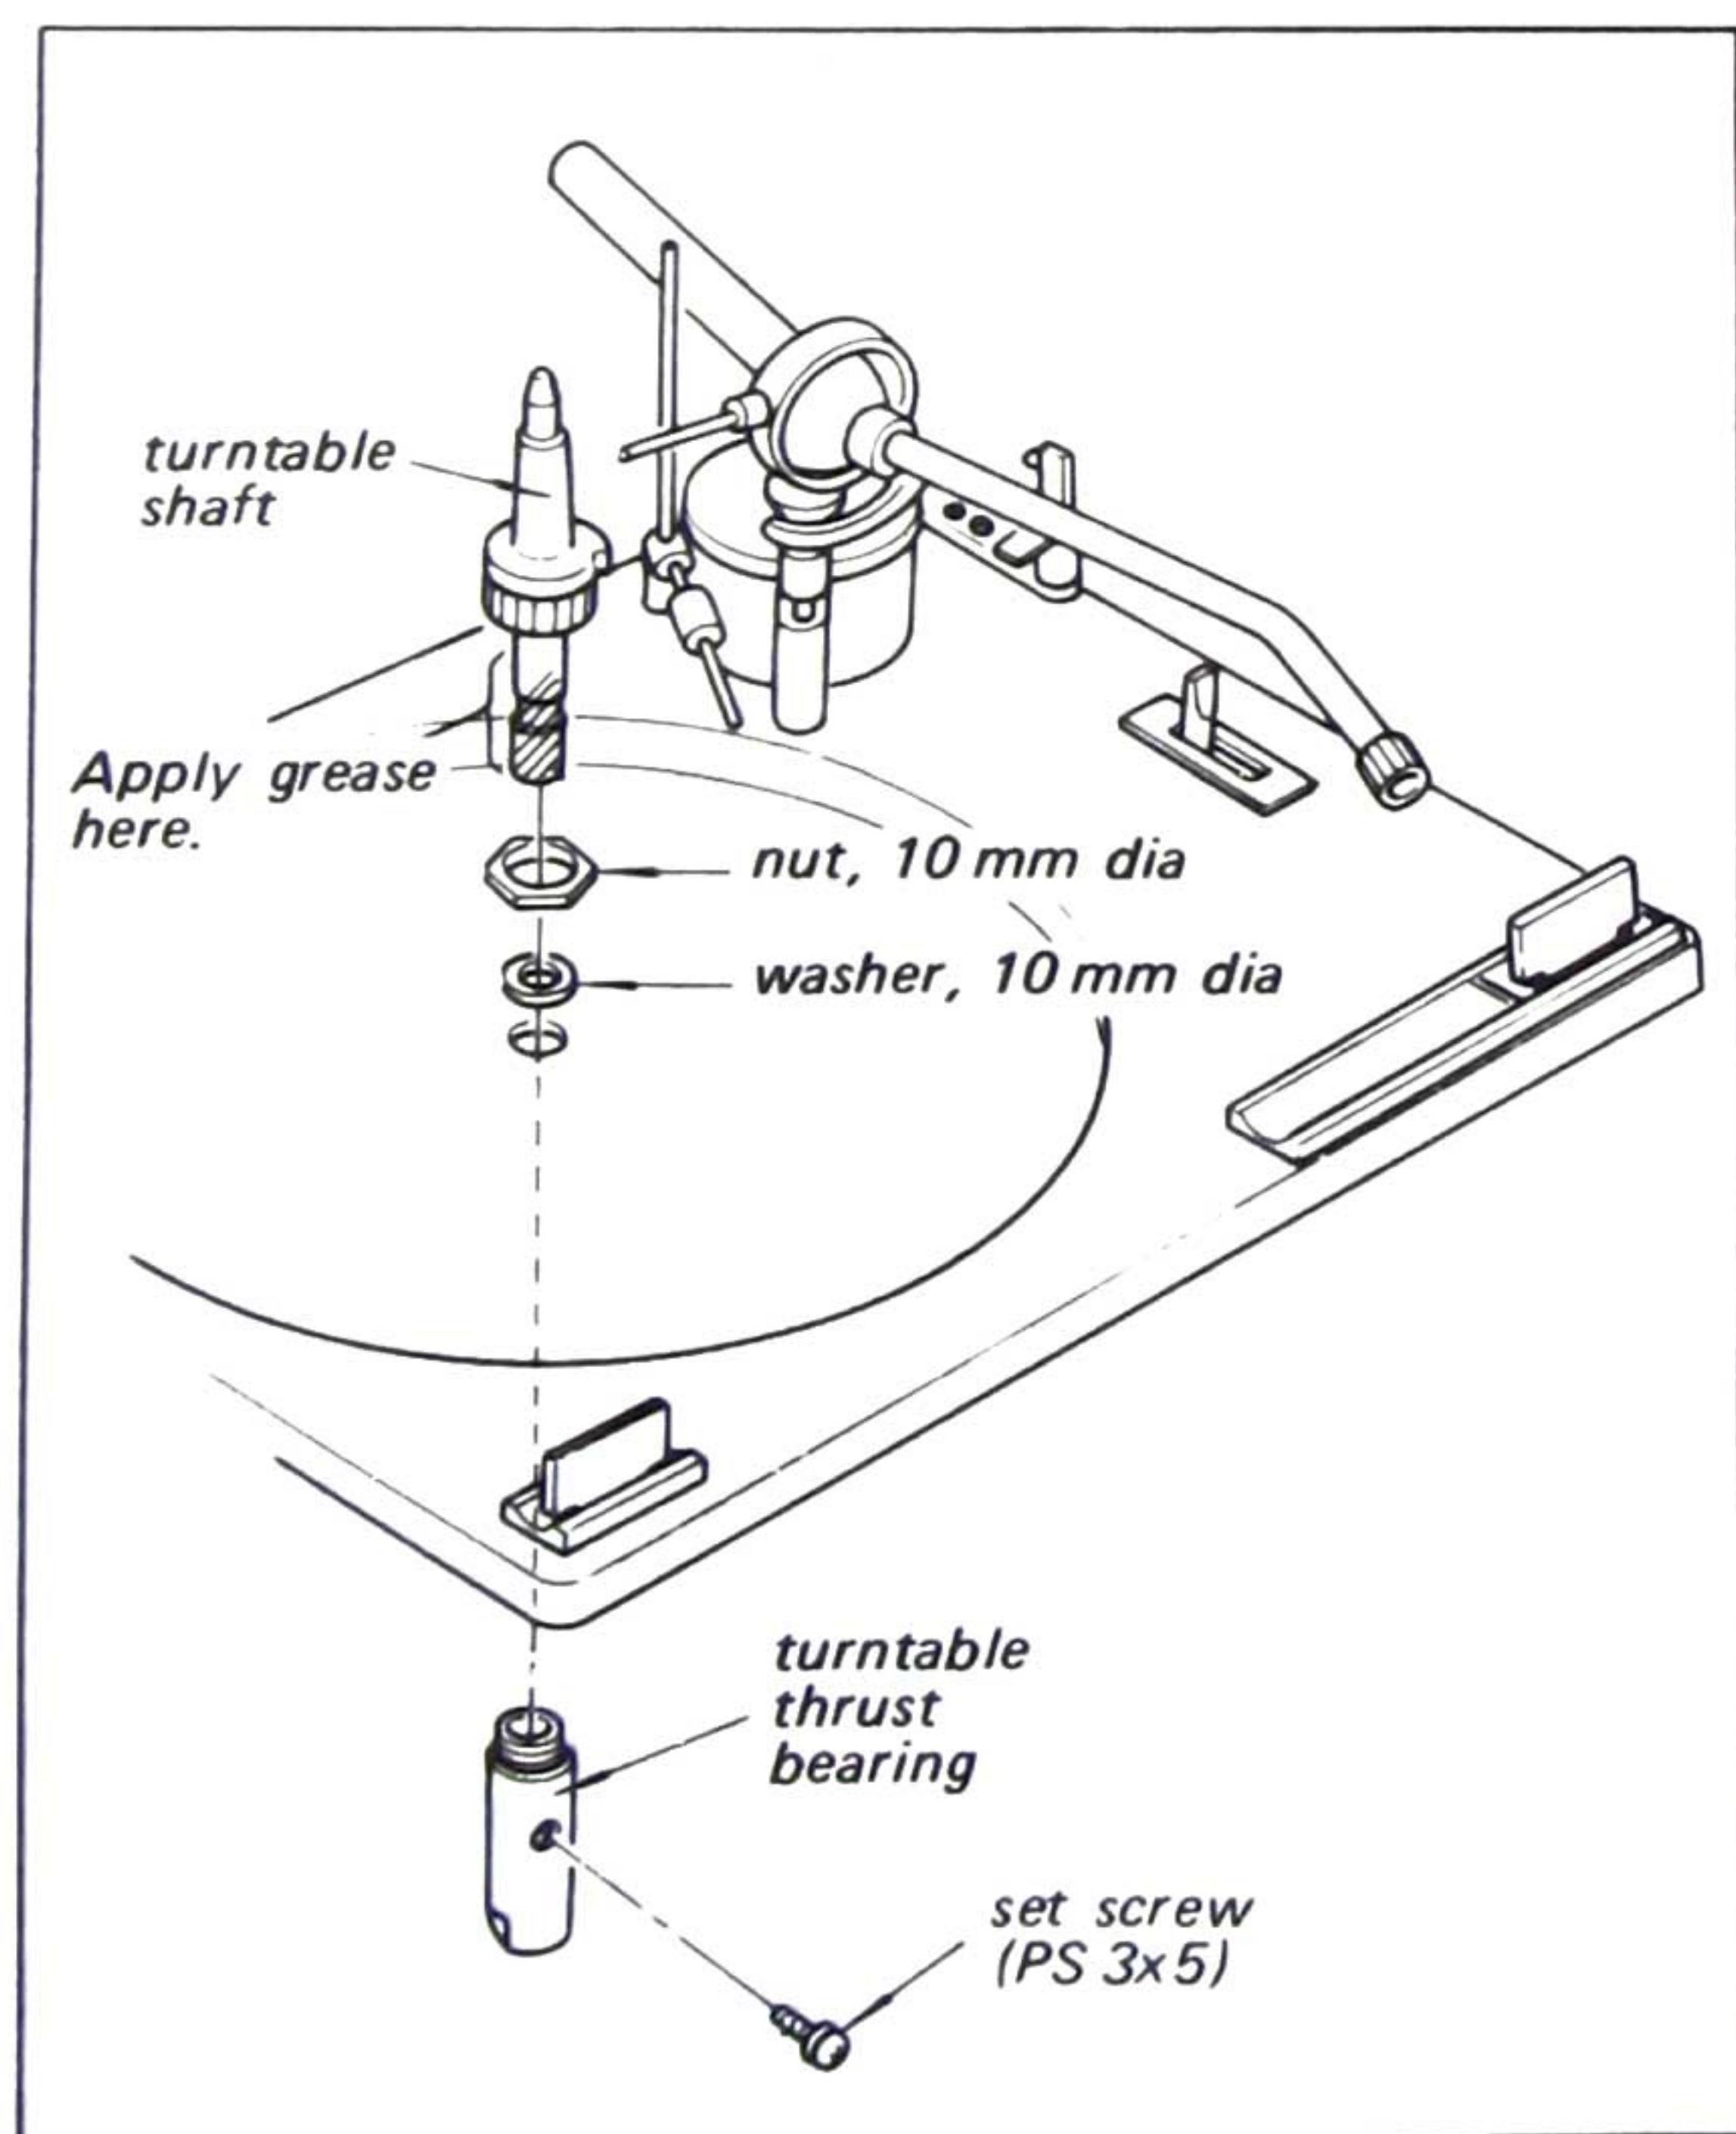

Fig. 2-4. Turntable shaft and turntable thrust bearing removal
3. Pull out the turntable shaft by removing the set screw as shown in Fig. 2-4.
4. Apply grease (Part No. 7-662-001-11) on the turntable shaft as shown in Fig. 2-4, when reinstalling it.
3. Remove the nut and washer as shown in Fig. 2-4.